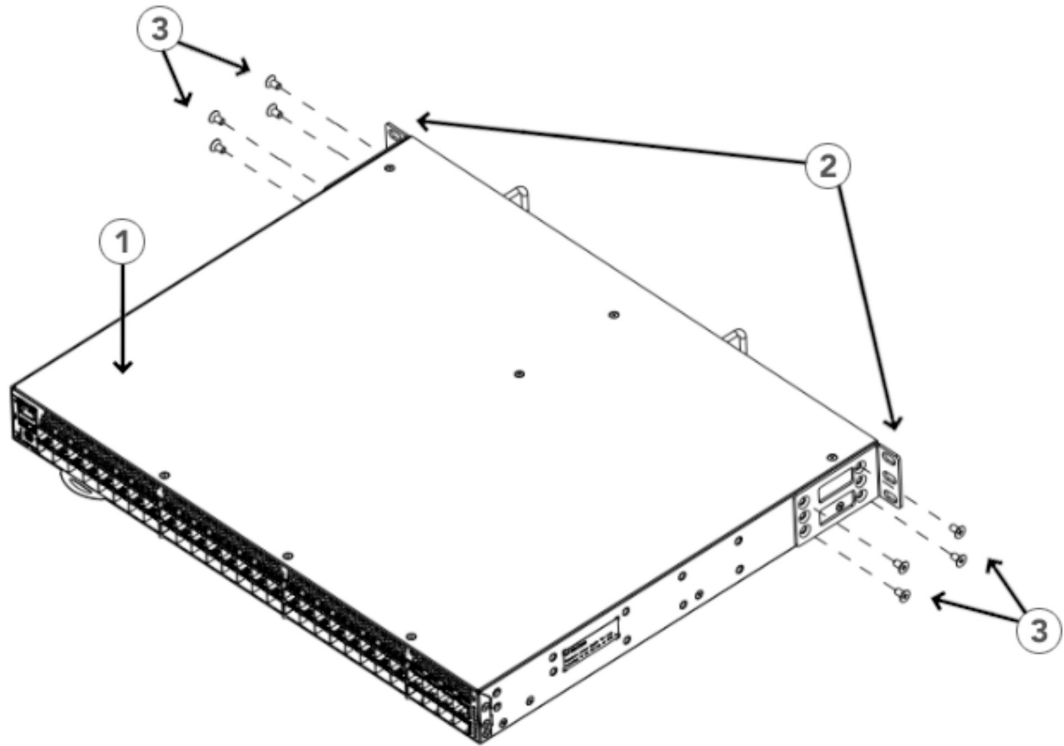

Figure 9. Attaching the Front Brackets to the Rear of the Device
1. Position the right front bracket with the flat side against the right rear side of the device, as shown Figure 9.